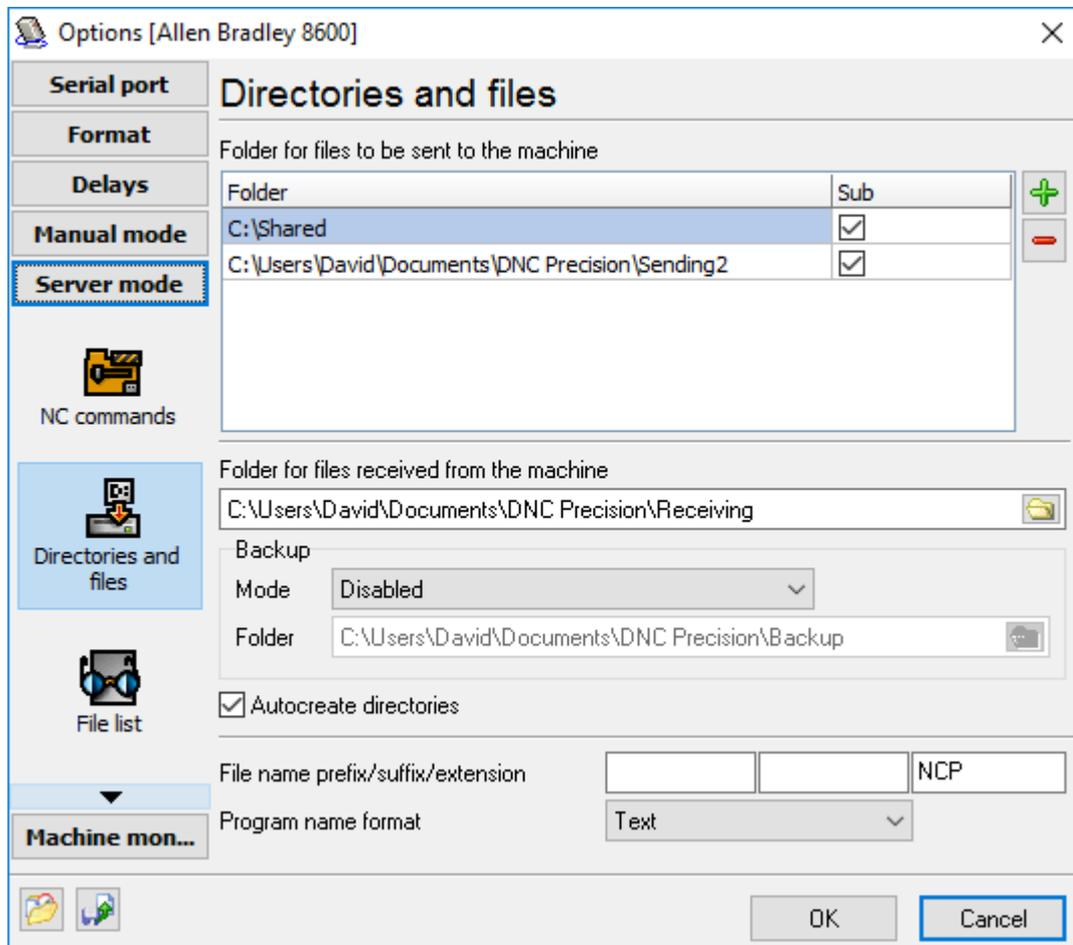

Fig. 11. Directories and files.
- **Send a file** - once the DNC server receives this command, it will queue the file the name of which was transmitted in the command body for sending. The final filename is generated from the prefix, the suffix and the extension specified on the "Folders and files" tab (fig. 11).
- **File list** - once the DNC server receives this command, it will queue the contents of the folder (or folders) specified on the "Directories and files" tab (fig. 11) in the "**Folder for files to be sent to the machine**" list for sending.
You may define multiple folders with subfolders to search a program requested. DNC Precision will send first found file that match your file name prefix, suffix and extension (see fig. 11). If your folders contain files with different extensions, you may define all your extensions in the "Extension" field. In this case, all extensions are semicolon delimited. For example, if your folders contain files like *.nc, *.ncp, *.iso, then you may define the extension string like "nc;ncp;iso" (w/o quotes). In this case, the program will use all these extensions for search.